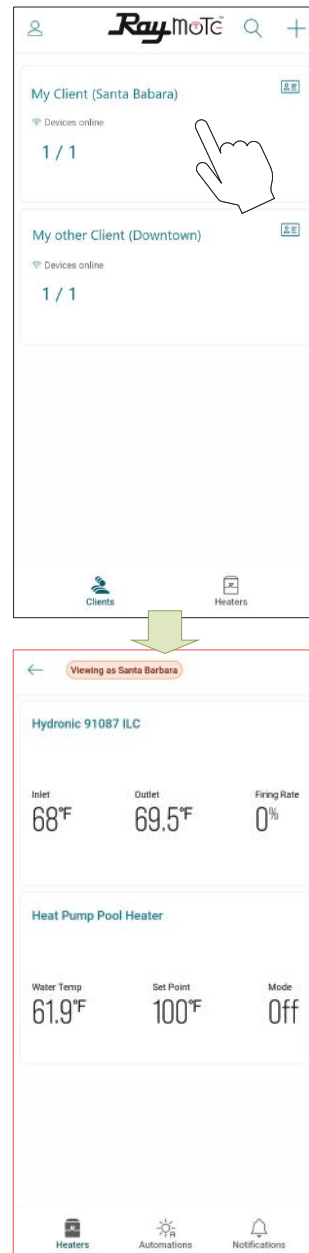

Figure 117. Access your Client's Heaters
7. You can access your client's heaters by clicking in each client tile. See Figure 117.